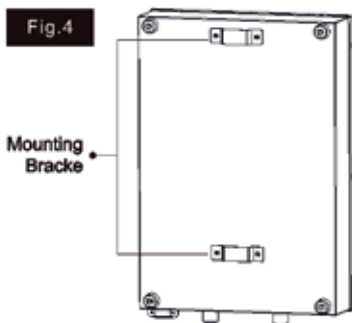

Fig.4
3. The water heater gets 2 mounting brackets on the back side, so all you need to do is hang the water heater on those fixed brackets on wall, pull the water heater unit downside to sit it tight(Fig.4).